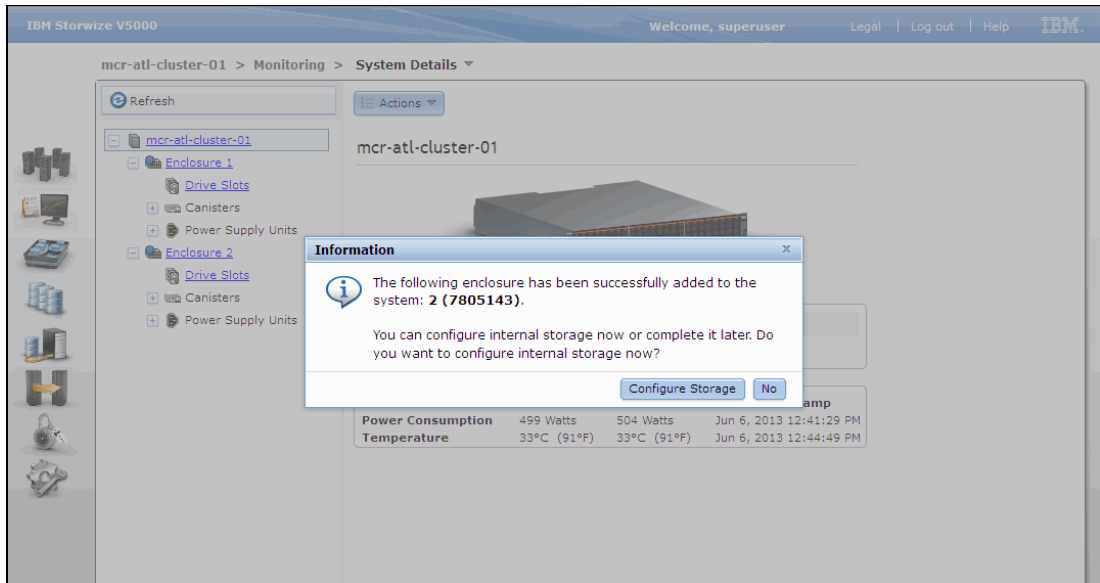

Figure 2-38 New storage configuration prompt
5. Click **Close** to finish the wizard. You are prompted to configure the new storage, as shown in Figure 2-38.